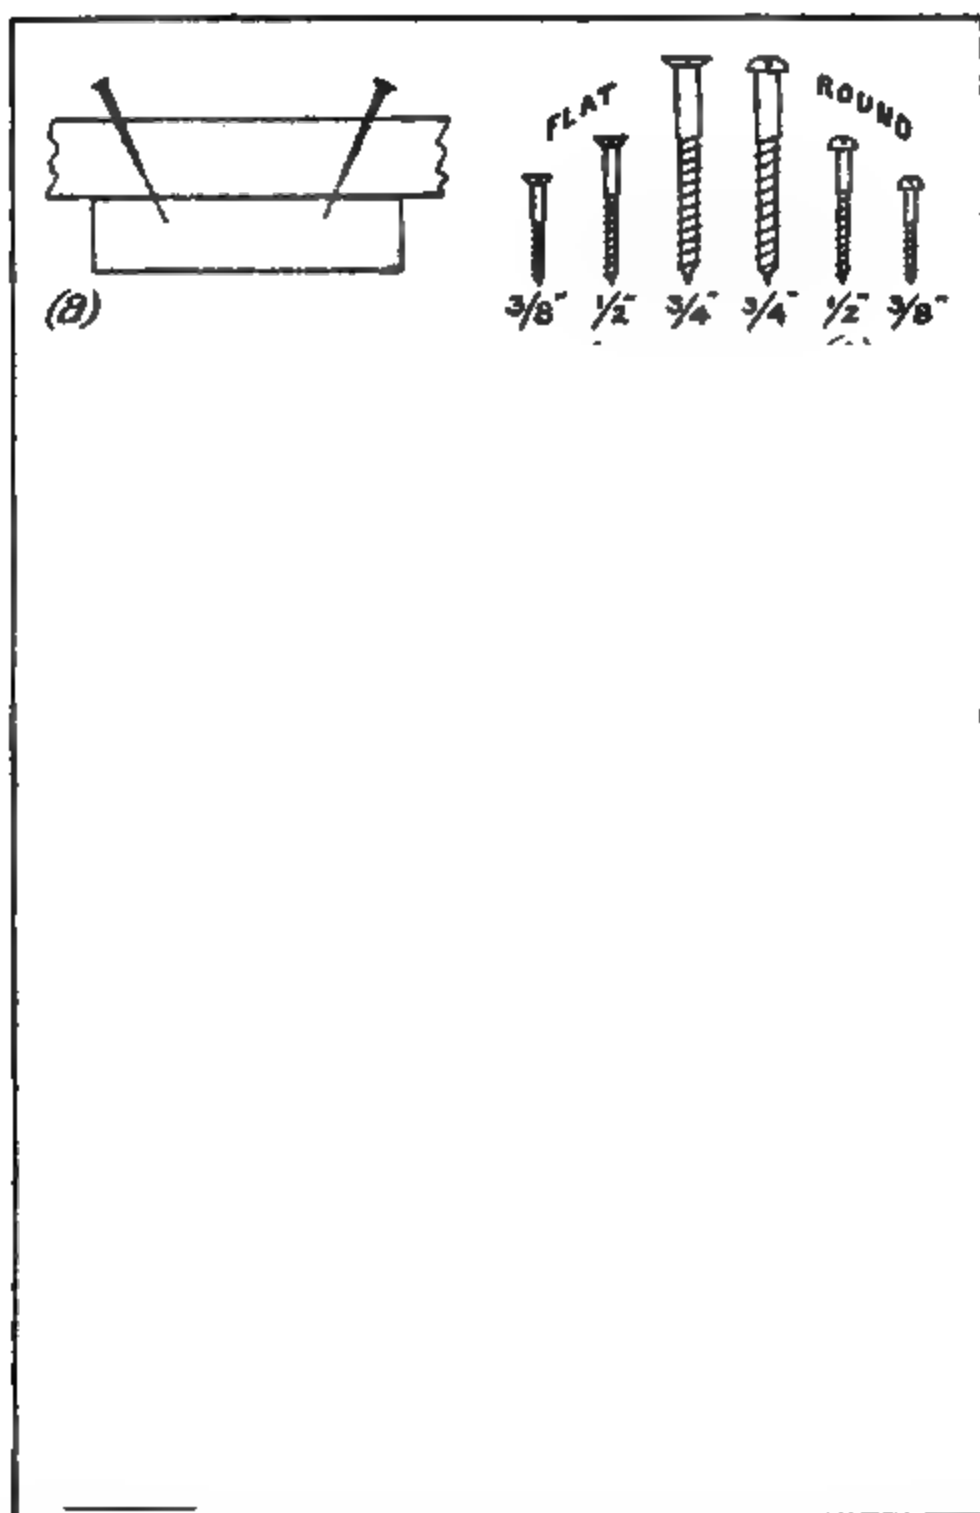

Fig. 142.—(a) Nails driven slantwise. (b) Flat-headed screws. (c) Round-headed screws. (d–g) Methods of hinging. (h) Hinging box lid. Enlarged section at Z.
*Nails, Screws, and Pins.*—*Nails* are never used for fixing fretwork except in cases where the nail is hidden. Incidentally, however, brass or iron wire nails, from  $\frac{1}{4}$  in. to  $\frac{3}{4}$  in. long, are of service. When used, it is advisable to drive them in slightly aslant (Fig. 142, *a*), in order that two may act like a wedge.
*Screws* for fretwork are of the finest gauge, brass ones being preferable. They are obtainable in sizes from  $\frac{1}{8}$  in. upwards, but these tiny ones, unless driven with extreme care and accuracy, afford very little hold. The more useful sizes are  $\frac{3}{8}$  in.,  $\frac{1}{2}$  in., and  $\frac{3}{4}$  in. Holes must always be properly drilled for screws, and it should be seen that the hole in the upper piece of wood is sufficient to take the shank easily, and that it is countersunk for a flat-headed screw. Unless these precautions are taken thin wood will split. For hidden fixtures, flat-headed screws (Fig. 142, *b*) may be taken;
*Incidental Fixtures.*—Hinges used in fretwork are small brass butts, and may be had from  $\frac{1}{4}$  in. upwards. Ornamental hinges for boxes, etc., may also be obtained from dealers in fretwork materials. Butt hinges are fixed as in cabinet work, the chief difference being that the hinge is smaller and the wood thinner. Indeed, the thinness of the wood makes the fixing of fretwork hinges troublesome. In some cases the screw has to be driven right through the wood and its point afterwards filed off. At Fig. 142, *d*, is shown an easy (but not very workmanlike) method of fixing a hinge for a photo-
When fretwork boxes are joined at the corners by halved joints, the lid is sometimes designed to lift off. Frequently, however, it is planned as section Fig. 142, *h*, the outer border (X) being fixed to the sides, while the centre (Y) is hinged. A flat ornamental hinge is the easiest to fix here; if a butt be used, it is hinged as at Z.